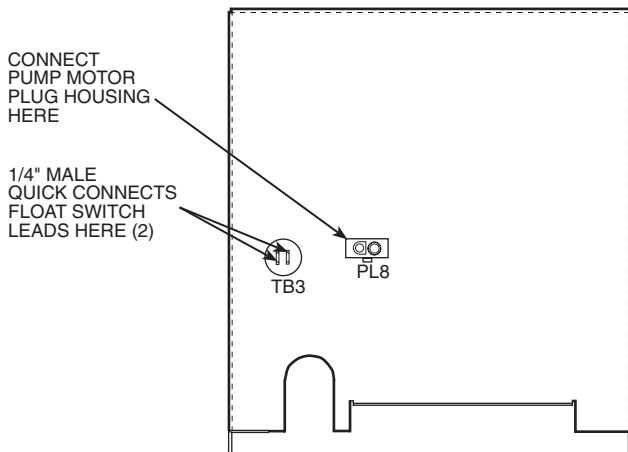

Fig. 3 — Control Box Wiring Connections
4. Route electrical wires for the float switch assembly and the pump assembly (Fig. 2) into the piping connection access area. Connect the 2 white wires from the float switch assembly to TB3 on front of control box (Fig. 3). Remove white jumper and connect the Molex plug from pump assembly to PL8, also on front of control box. Use the wire tie provided to secure wires, as needed.